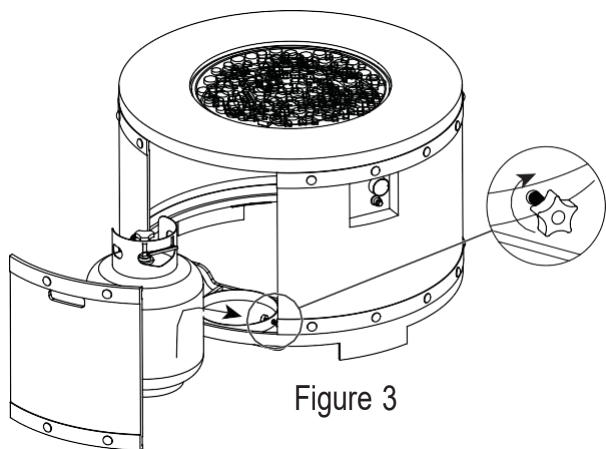
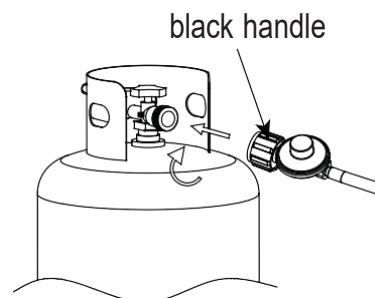

Figure 3
Figure 4
3. Place the gas cylinder into the cylinder holder. Secure the cylinder by tightening clockwise the butterfly screw found on the cylinder holder (see Figure 3), so that the cylinder cannot move from side to side or fall down. Connect the regulator, screw the black handle (see Figure 4) clockwise to tighten, turn the black handle counter clockwise to remove. The knob on the control panel is turned all the way to the "OFF" position when the fire pit is NOT in use.